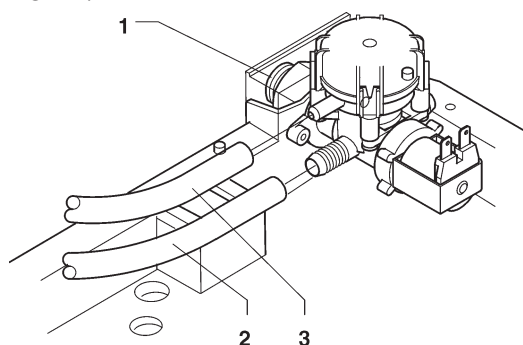

Fig. 13
Use a hose (also available as a kit) capable of withstanding the water mains pressure and suitable for use with food-stuff (min. inside diameter of 6 mm) to connect the water supply to the union (3/4" gas) of the water inlet solenoid valve (see Fig. 13).
The water inlet solenoid valve (see Fig. 13) is equipped with an overflow device which mechanically stops the water inlet if there is a malfunction in the solenoid valve or in the boiler water level control device.
- loosen the nut which secures the solenoid valve supply hose to relieve the water mains residual pressure and then tighten again (see Fig. 13);